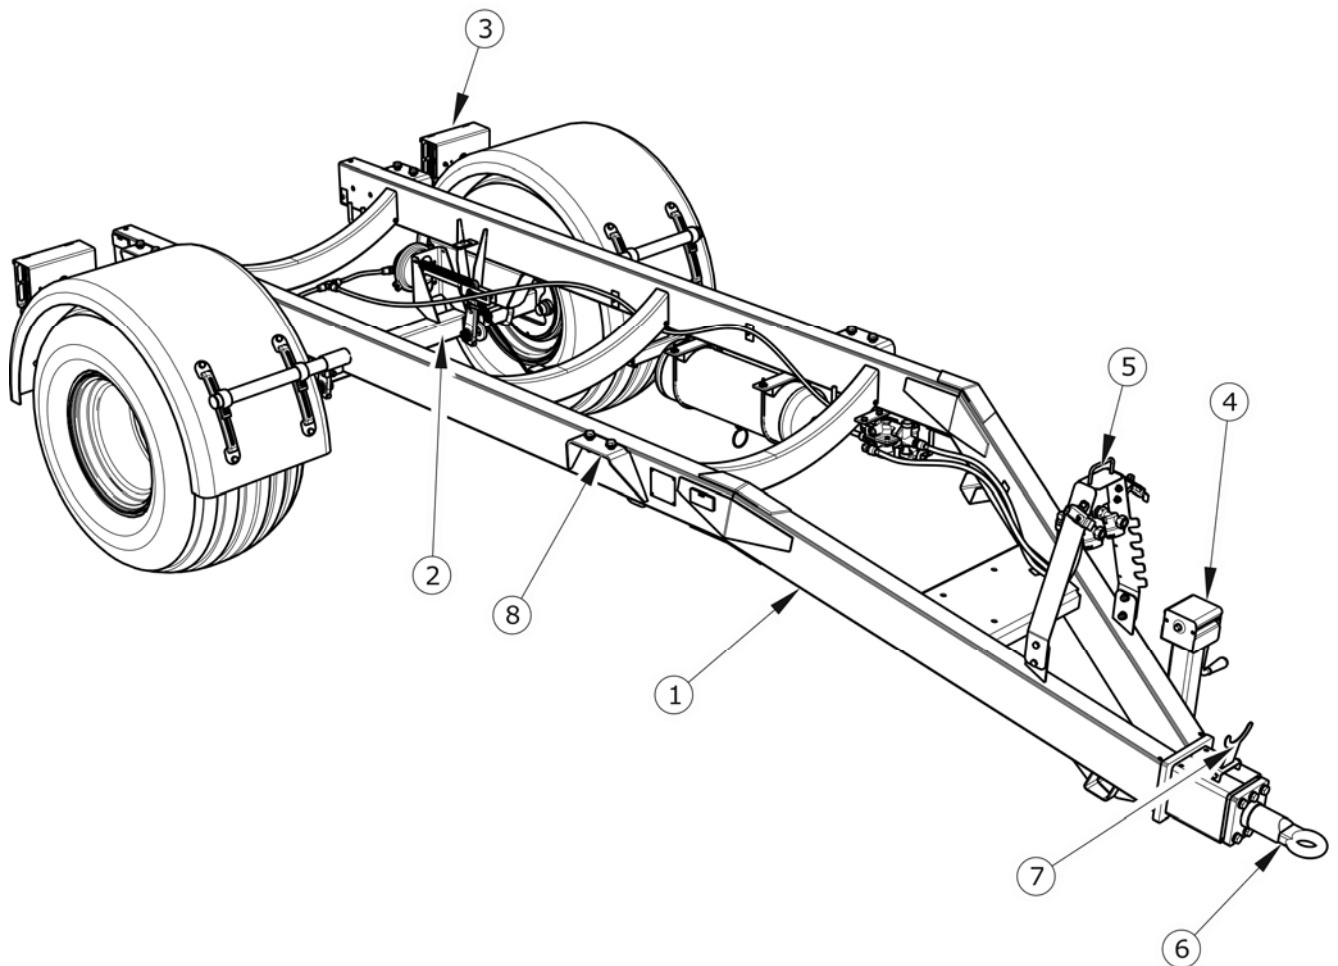

FIG. 3.1 Chassis
(1) lower frame, (2) wheel axle, (3) light bracket, (4) support, (5) conduit bracket, (6) rotating drawbar eye, (7) PTO shaft bracket, (8) tank fixing bracket
Slurry tanker chassis consists of subassemblies indicated on figure 3.1. Lower frame (1) is a structure welded from steel sections. The main support elements are two longitudinal members connected with profiled crossbars. Brackets (8) for tank mounting are welded to the frame longitudinal members. Rear light brackets (3) are located in the rear part of the lower frame.